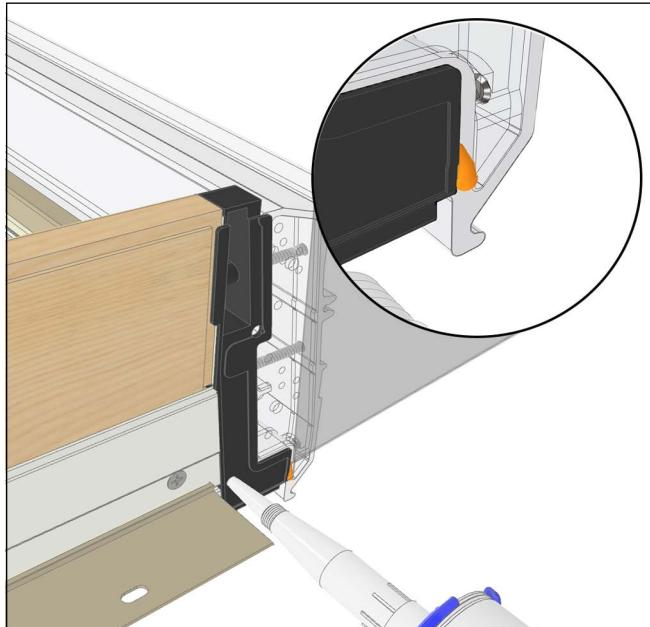
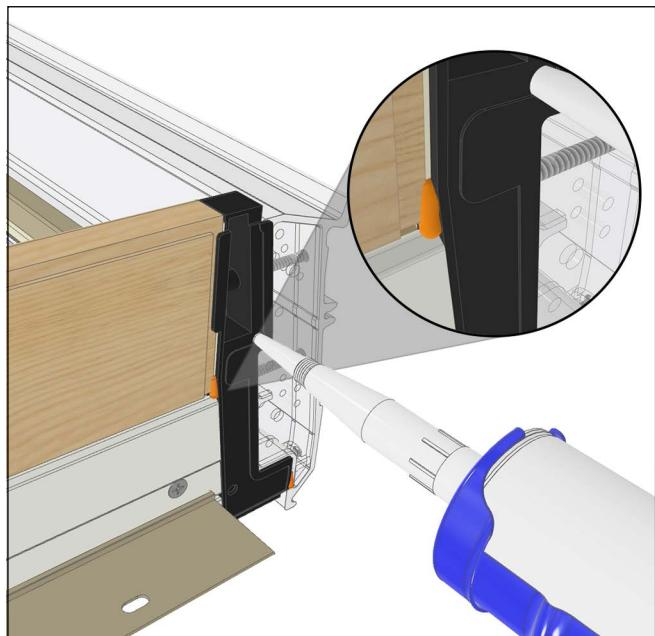

Figure 5
Figure 6
5. Inject the sill until squeeze out occurs in both locations. Note: *Inject the exterior most hole first and the interior second.* Clean up excessive silicone squeeze out as necessary. See Figure 5 and Figure 6.